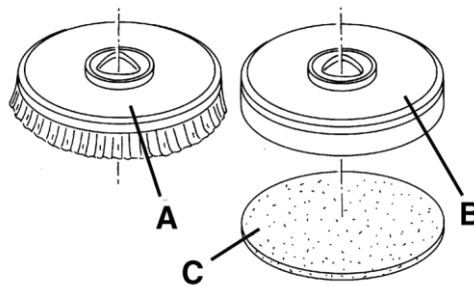

Figure 3
1. According to the kind of cleaning to be performed, the machine can be equipped either with brushes (A, Fig. 3) or pad-holders with pads (C) together with the appropriate deck.
2. Press the switch (66) to start the machine.
3. Turn the speed adjuster (4) to idle by turning it counter-clockwise.
4. Place the brushes (A) or the pad-holders (B) under the deck (18).
5. Lower the deck on the brushes/pad-holders by pressing the switch (61).
6. To engage the brushes/pad-holders, press the drive paddle (3) and then release it. If necessary, repeat the procedure until the brushes/pad-holders are engaged.